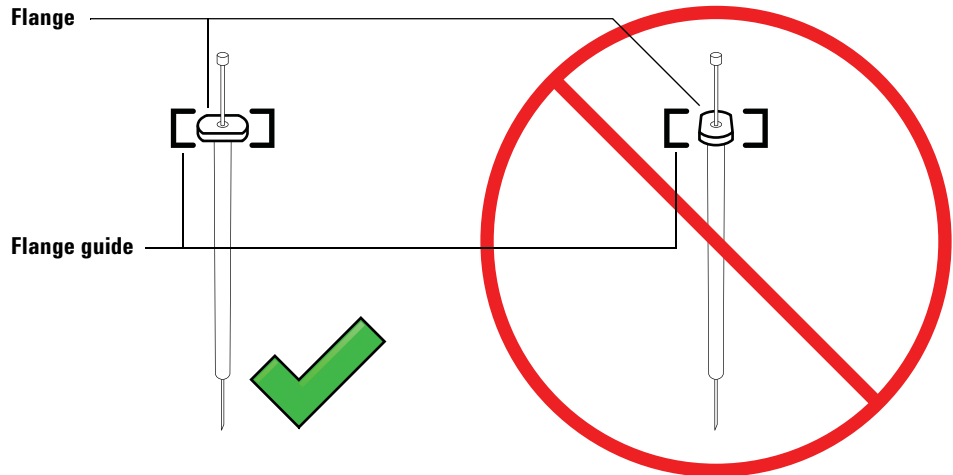

Figure 63 Syringe flange orientation
- Align the syringe flange with the flange guide and press the syringe into place, keeping the needle end in the guide hole of the needle support foot. Make sure that the flat edge of the syringe flange faces out (Figure 63).